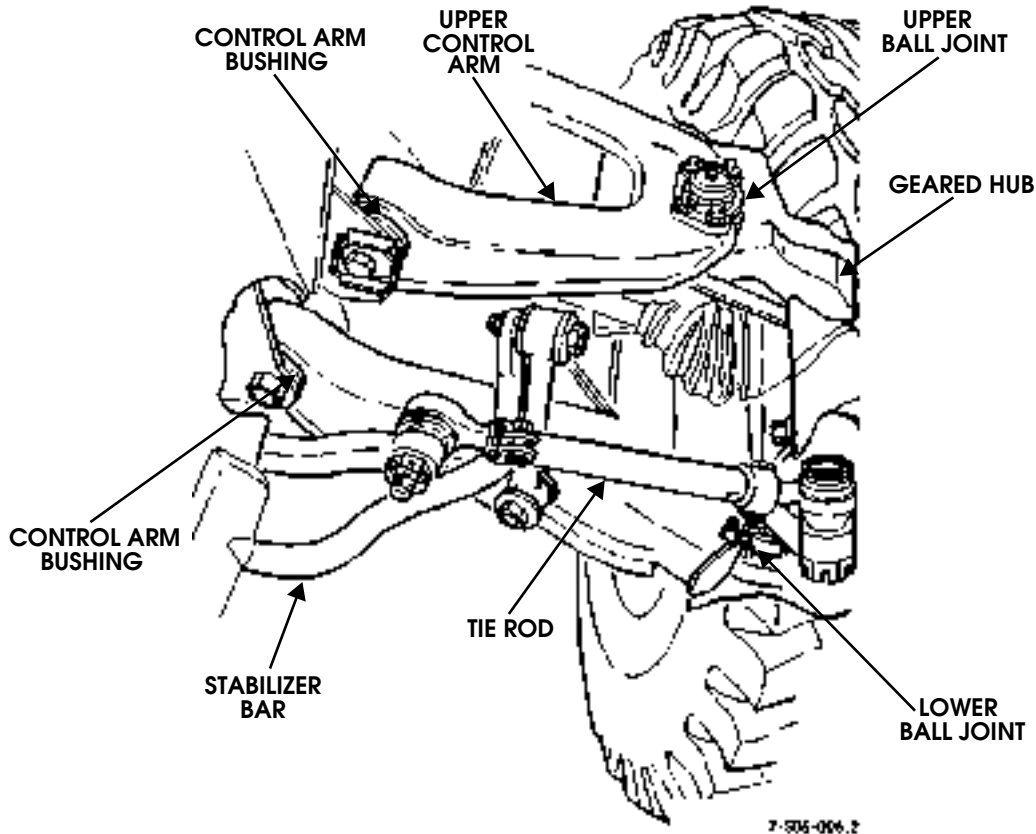

Figure 6-38: Suspension Inspection Components
3. Check tie rods and upper control arms for distortion, play, or looseness (Figure 6-38). Replace worn, damaged parts before proceeding.